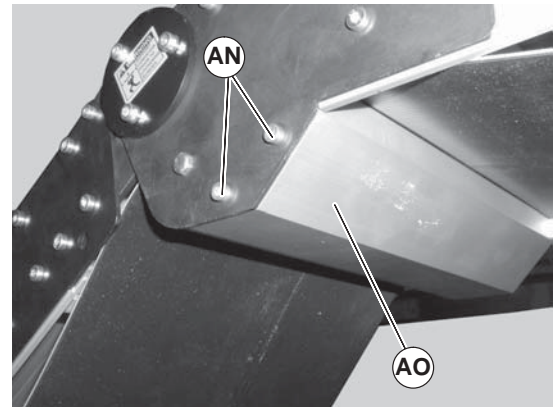

Figure 18
3. Remove screws (Figure 18, item AN) on both sides of knuckle and remove guard (AO).